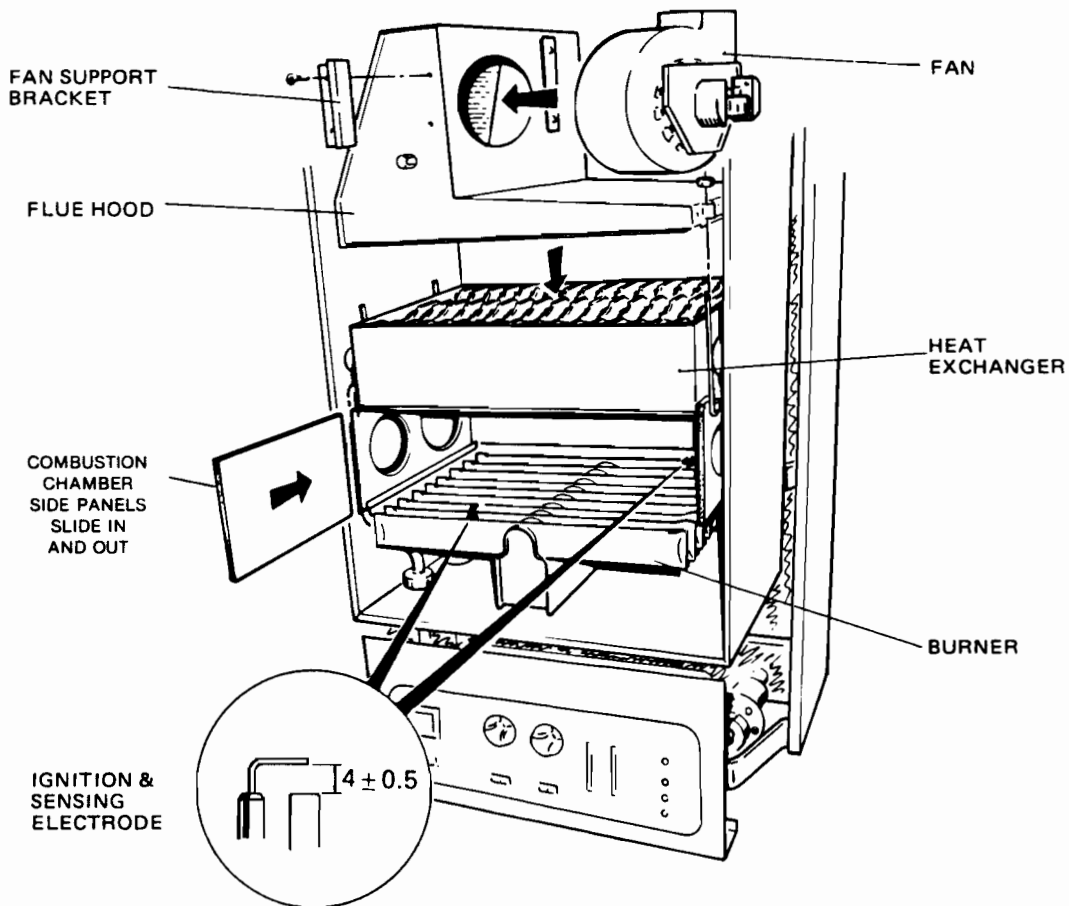

FIG. 32
(See Fig. 32)
- e) Inspect the main burner and remove any deposits with a soft brush. Check the electrodes for damage or deterioration, clean or renew as necessary. Ensure that the spark gaps are correct to dimensions specified in Fig. 32.
(see Fig. 32)
## 17. MAIN BURNER (see Fig. 32)